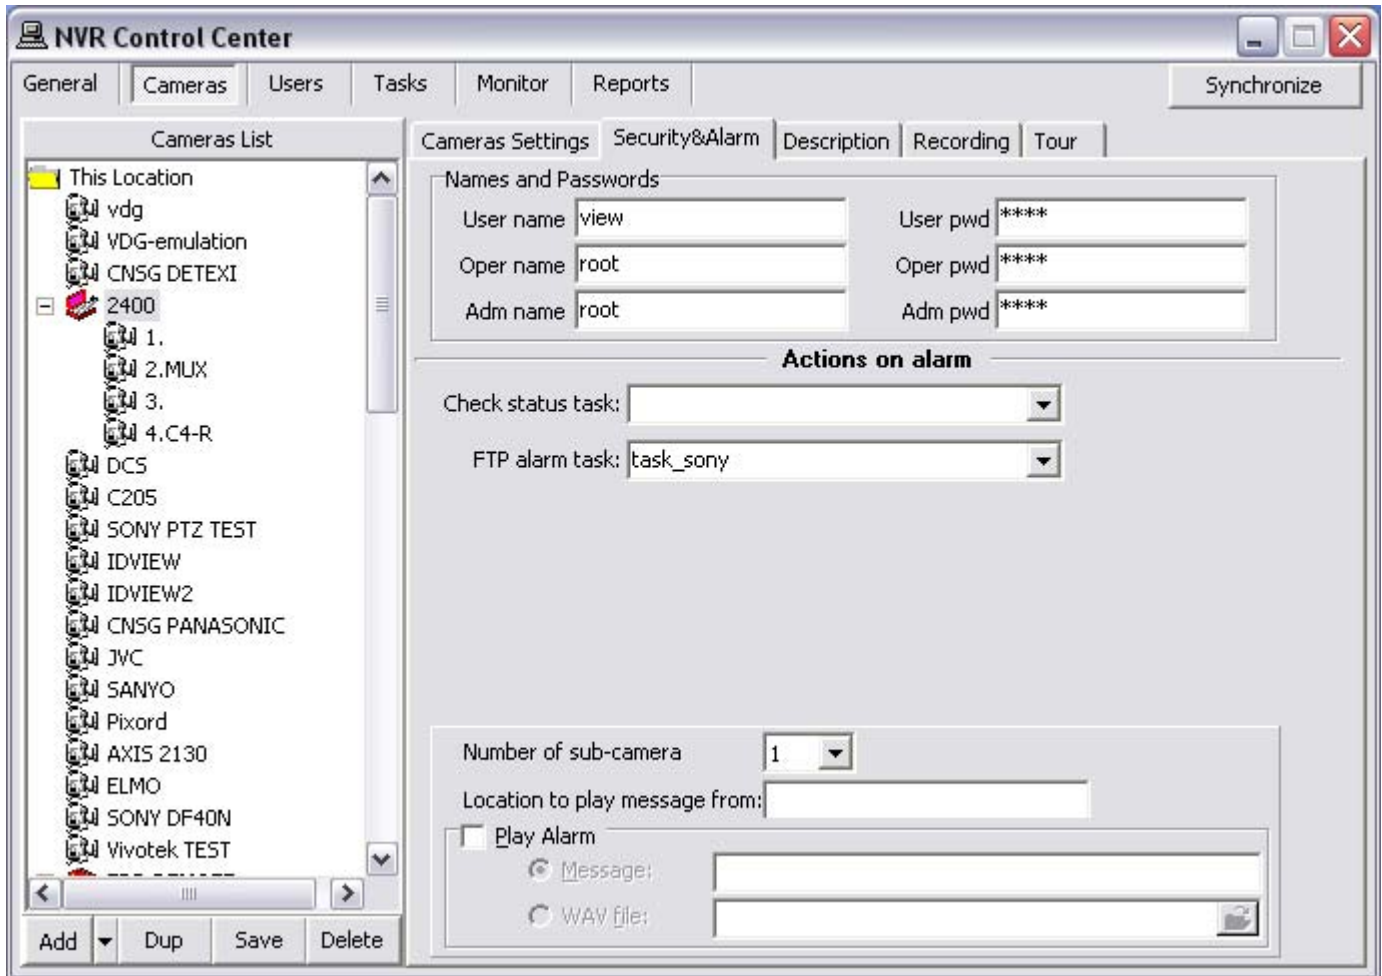

Fig 28. NVR Control Center — Cameras — Security & Alarm
2. Under the **Names and Passwords** enter usernames and passwords. They should match the users that are defined within the camera (Fig 28).